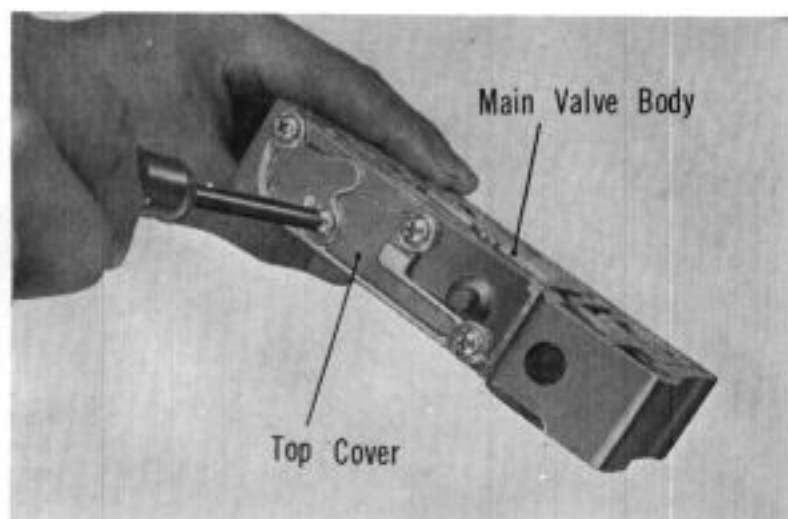

Fig. 7B-68
1. Loosen the cover screws and remove the top cover from the main valve body. (Fig. 7B-68)
2. The valve components which can be taken out of the main valve body by removing the top cover are. (Fig. 7B-69);